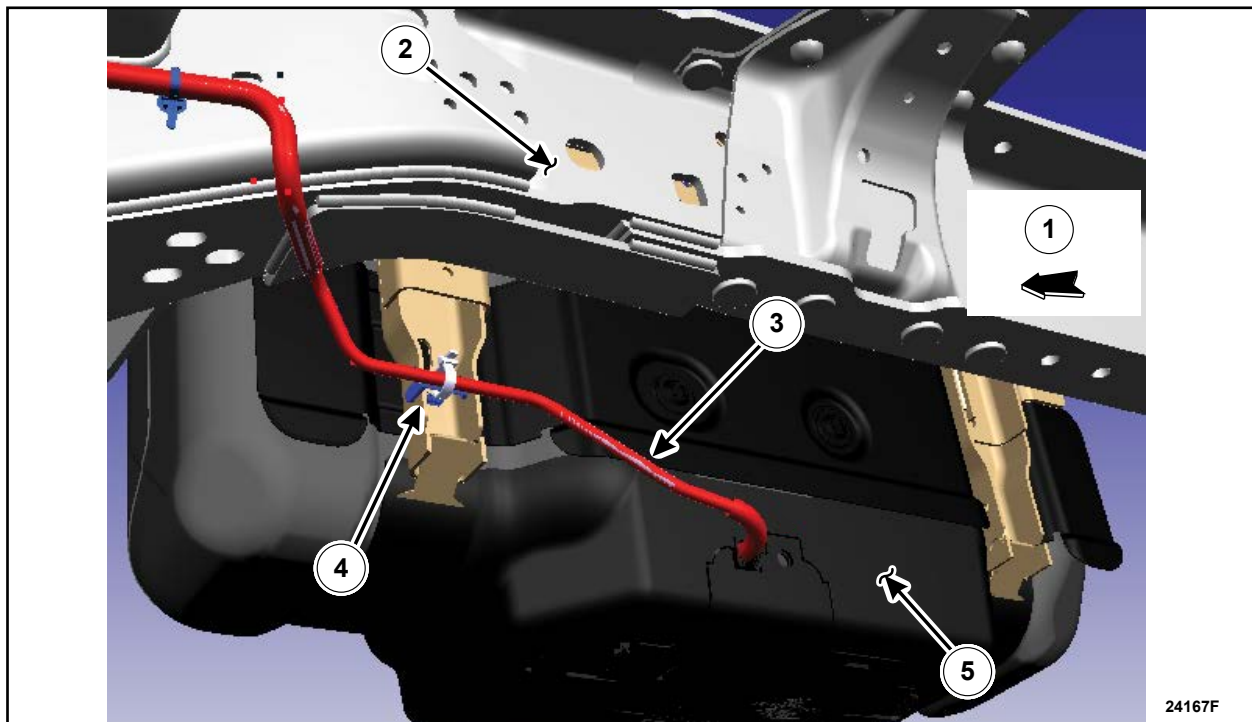

FIGURE 20
1. Remove and discard the clip and zip tie from the area shown in Figure 20.